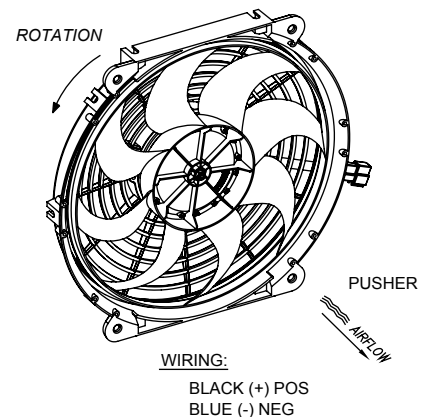

FIGURE 5
3. After seating blade, replace nut. Pusher configuration should look as shown in **FIGURE 5**. Note: Fan wiring changes to BLACK (+) POS and BLUE (-) NEG.